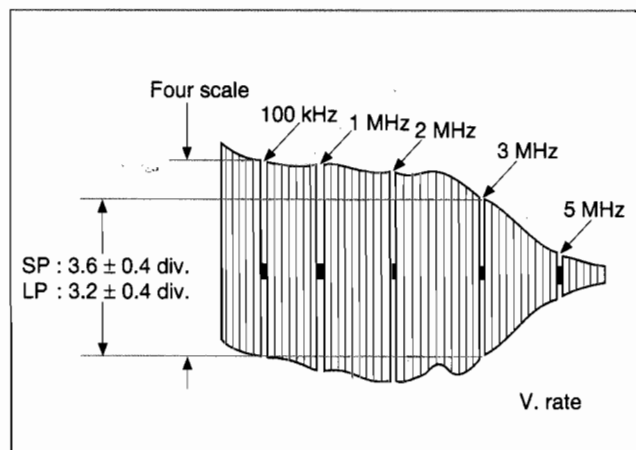

Fig. 3-3-7 S-VHS VIDEO EQ
- (1) Connect an oscilloscope to Y OUT TERMINAL and TP111 (negative slope).
- (2) Record a video sweep signal in the S-VHS SP mode, then play it back.
- (3) Set the EVR mode by pressing the "K" button of the pre-setting unit.
- (4) Set "A : 3" by pressing 3 button of the remote controller.
- (5) When assuming the 100 KHz sweep signal marker on the bigger channel is four scales on the oscilloscope, adjust the CH "+" or "-" buttons on the front panel or the Digit-key remote controller so that the 3 MHz is set at  $3.6 \pm 0.4$  scale ( $-1 \pm 1.0$  dB) while observing Y OUT of the S output. (See Fig. 3-3-7.)
- (6) Set the normal VCR mode by pressing the "K" button of the pre-setting unit again so adjustment data is memorized.
- (7) Carry out the step (3) and (4) in the S-VHS LP mode.
- (8) When assuming the 100 kHz sweep signal marker on the bigger channel is four scales on the oscilloscope, adjust the CH "+" or "-" buttons on the front panel or the Digit-key remote controller so that the 3 MHz is set at  $3.2 \pm 0.4$  scale ( $-2 \pm 1.0$  dB) while observing Y OUT of the S output. (See Fig. 3-3-7.)